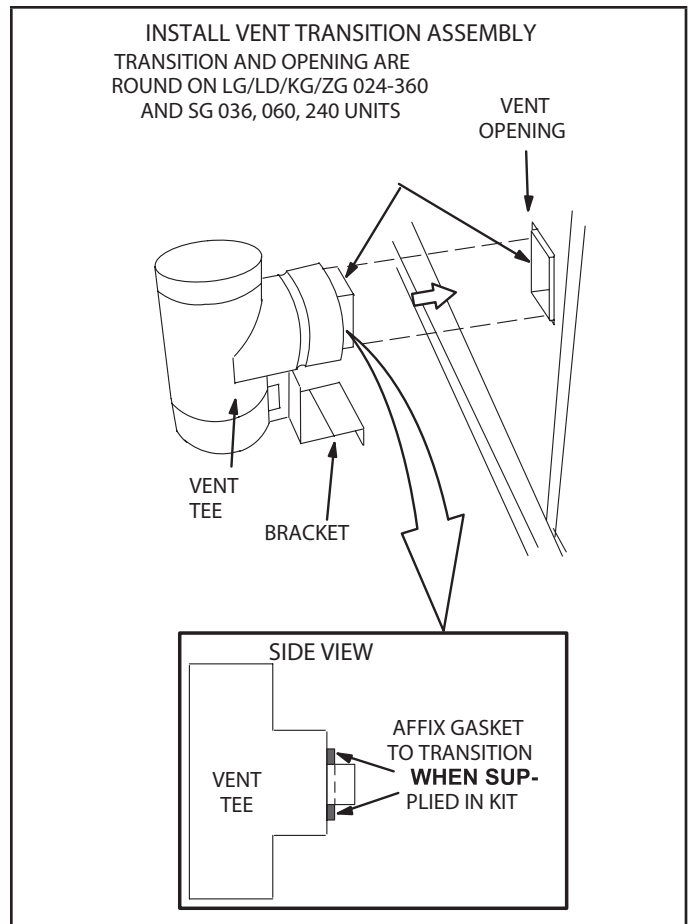

FIGURE 7
- 7 - Install vent tee assembly as shown in figures 7 and 8. Make sure the gasket between the transition and the unit forms a good seal to prevent leaks.